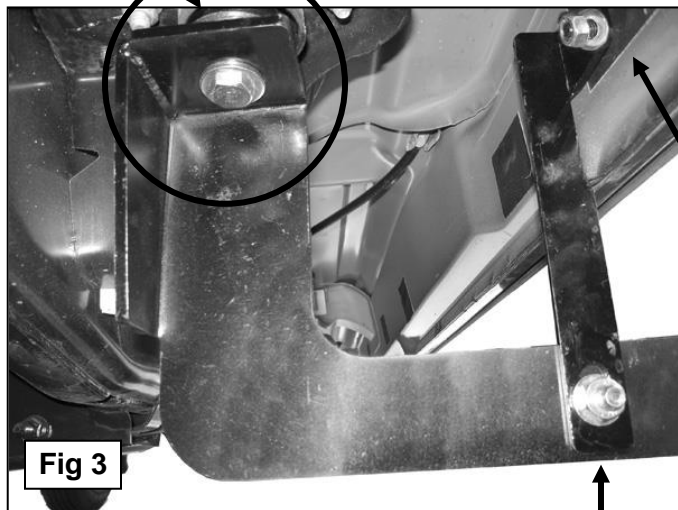

Fig 3
- Select the driver side front Mounting Bracket. Insert (1) 12mm x 120mm Hex Bolt with (1) 12mm Flat Washer and (1) 12mm Lock Washer through the Mounting Bracket. Place (1) Safety Washer onto the 12mm Hex Bolt then slide the rubber bushing onto the Hex Bolt and against the Washer. Make sure that the Safety Washer is between the Mounting Bracket and the factory rubber bushing, **(Figure 3)**. Hold the front Mounting Bracket, (with hardware), up in position and hang it from the body mount by threading the hex bolt into the body mount. Snug but do not tighten hardware at this time.
6. Locate the driver side front Support Bracket (long) and attach it to the Bolt Plate with (1) 10mm Flat Washer, (1) 10mm Lock Washer and (1) 10mm Hex Nut, **(Figure 3)**. **NOTE:** Place the Support Bracket against the front facing side of the Mounting Bracket with the bent tab facing towards the **front** of the vehicle. Snug but do not tighten hardware at this time.
7. Attach the lower end of the front Support Bracket to the front of the Mounting Bracket using (1) 10mm x 30mm Hex Bolt, (2) 10mm Flat Washers, (1) 10mm Lock Washer and (1) 10mm Hex Nut, **(Figure 3)**. Do not tighten hardware at this time.